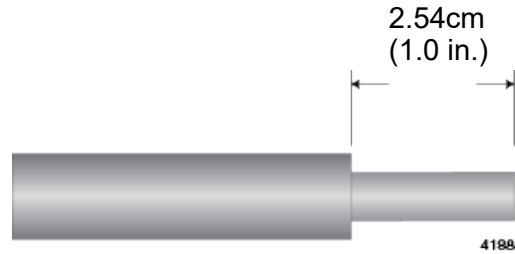

Figure 94. Stripping the Grounding Wire
1. Strip 2.54cm (1.0 in.) of insulation from the end of the solid grounding wire with a wire insulator stripper. Refer to Figure 94.